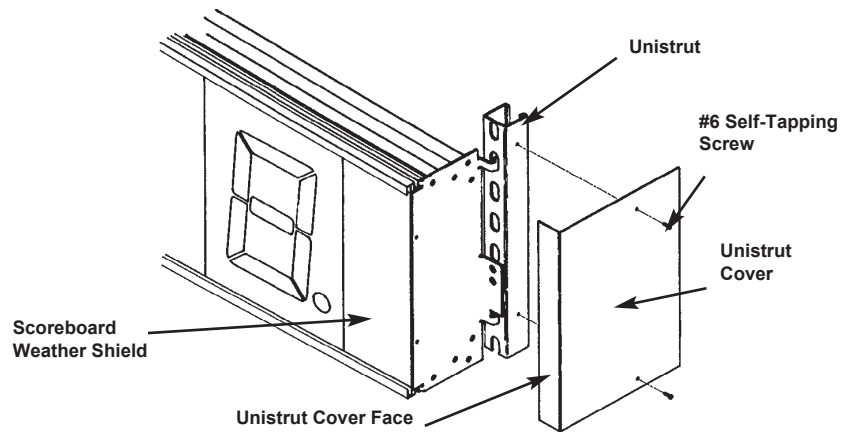

Figure 3-O: Installing optional unistrut cover
- 1)** Position the cover over the unistrut on one of the outside edges of your scoreboard, aligning the front face of the cover behind the scoreboard weather shield slot as shown in Figure 3-O.